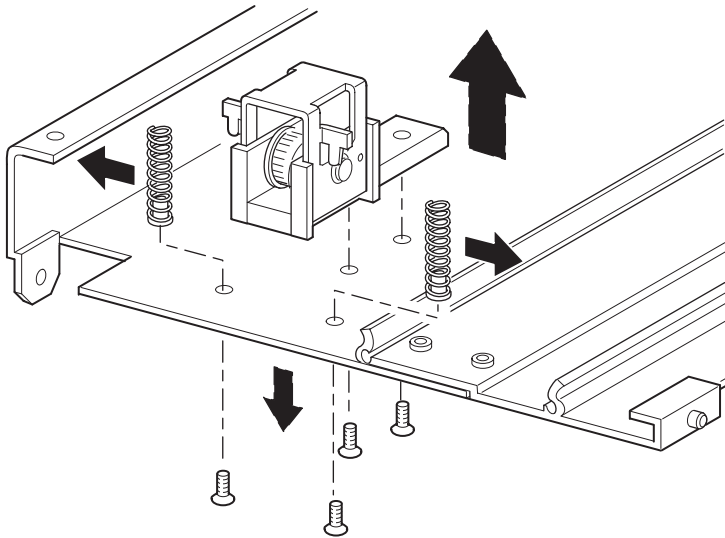

Figure 16 Removing the belt tensioner ramp and idler pulley
8. Remove the belt tensioner ramp and idler pulley components as follows (see Figure 16 on page 26):
12. Secure the belt tensioner ramp and idler pulley to the extension using the two previously removed screws (see Figure 16 on page 26).
13. Secure the belt tensioner ramp and idler pulley springs using the two previously removed screws (see Figure 16 on page 26).